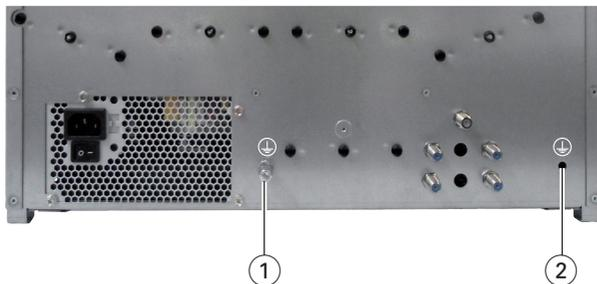
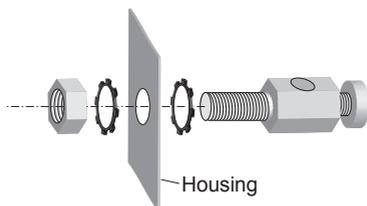

Fig. 8
Fig. 9
The pre-installed earth connection terminal in position ① can be relocated to position ② (fig. 8).
- Mount the earth connection terminal (according to fig. 9) in position ② as shown in fig. 8.